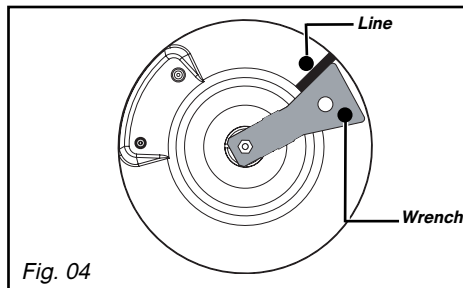

Fig. 04
– Turn the wrench clockwise until the line appears on the other side (Fig. 04).